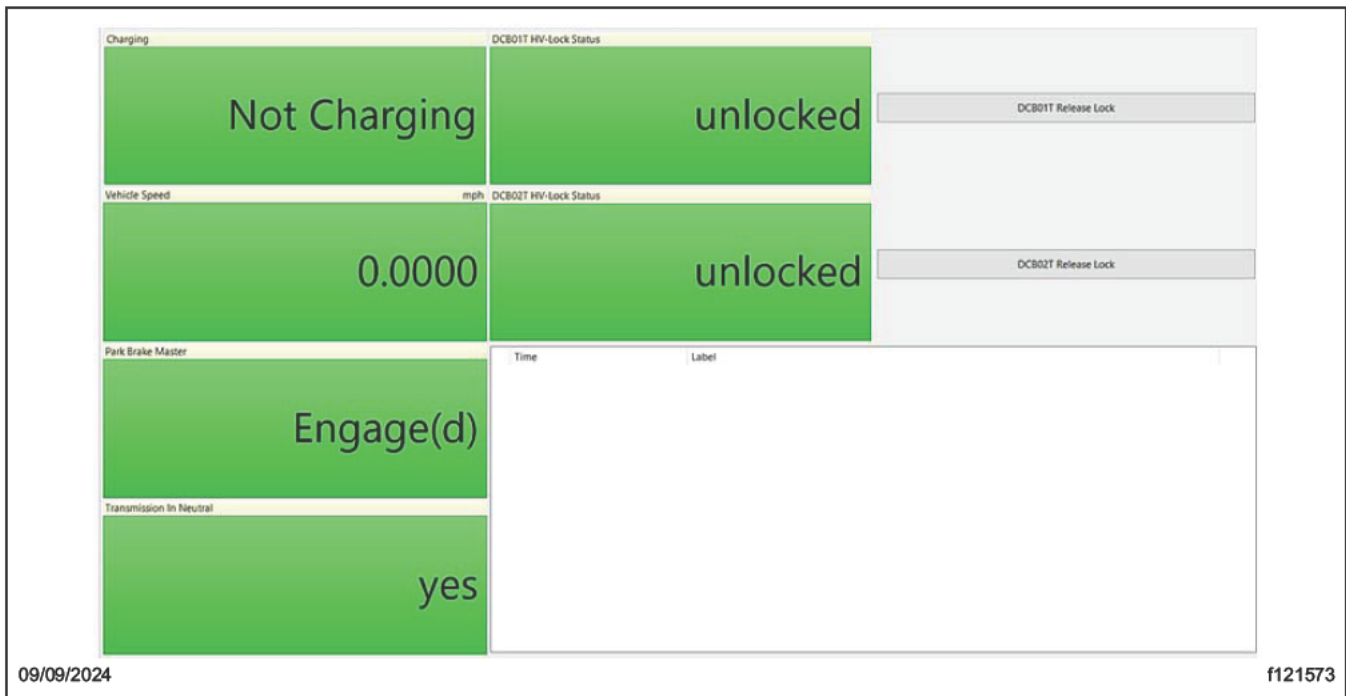

Fig. 43, DCB Lock Release Panel
- 20.1 If the 'DCB HV-Lock Status' does not show as 'unlocked,' select the 'DCB Release Lock' button, and allow the procedure to complete. See Fig. 43.